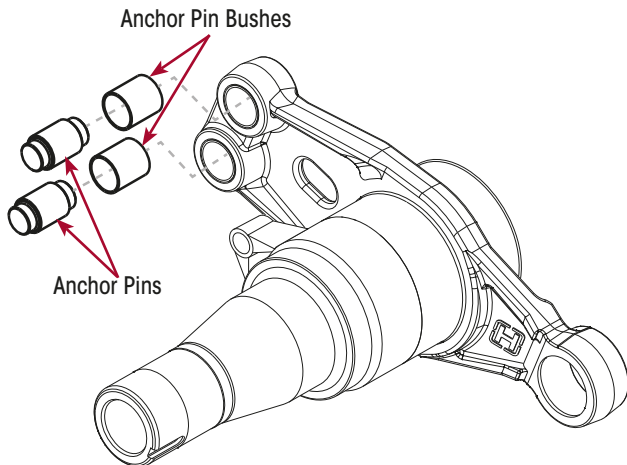

Figure 62: Anchor Pin & Bush Installation
1. Push out anchor pins. If necessary, spray pins with a penetrating lubricant and tap out with a soft hammer or brass drift. Refer Figure 62.